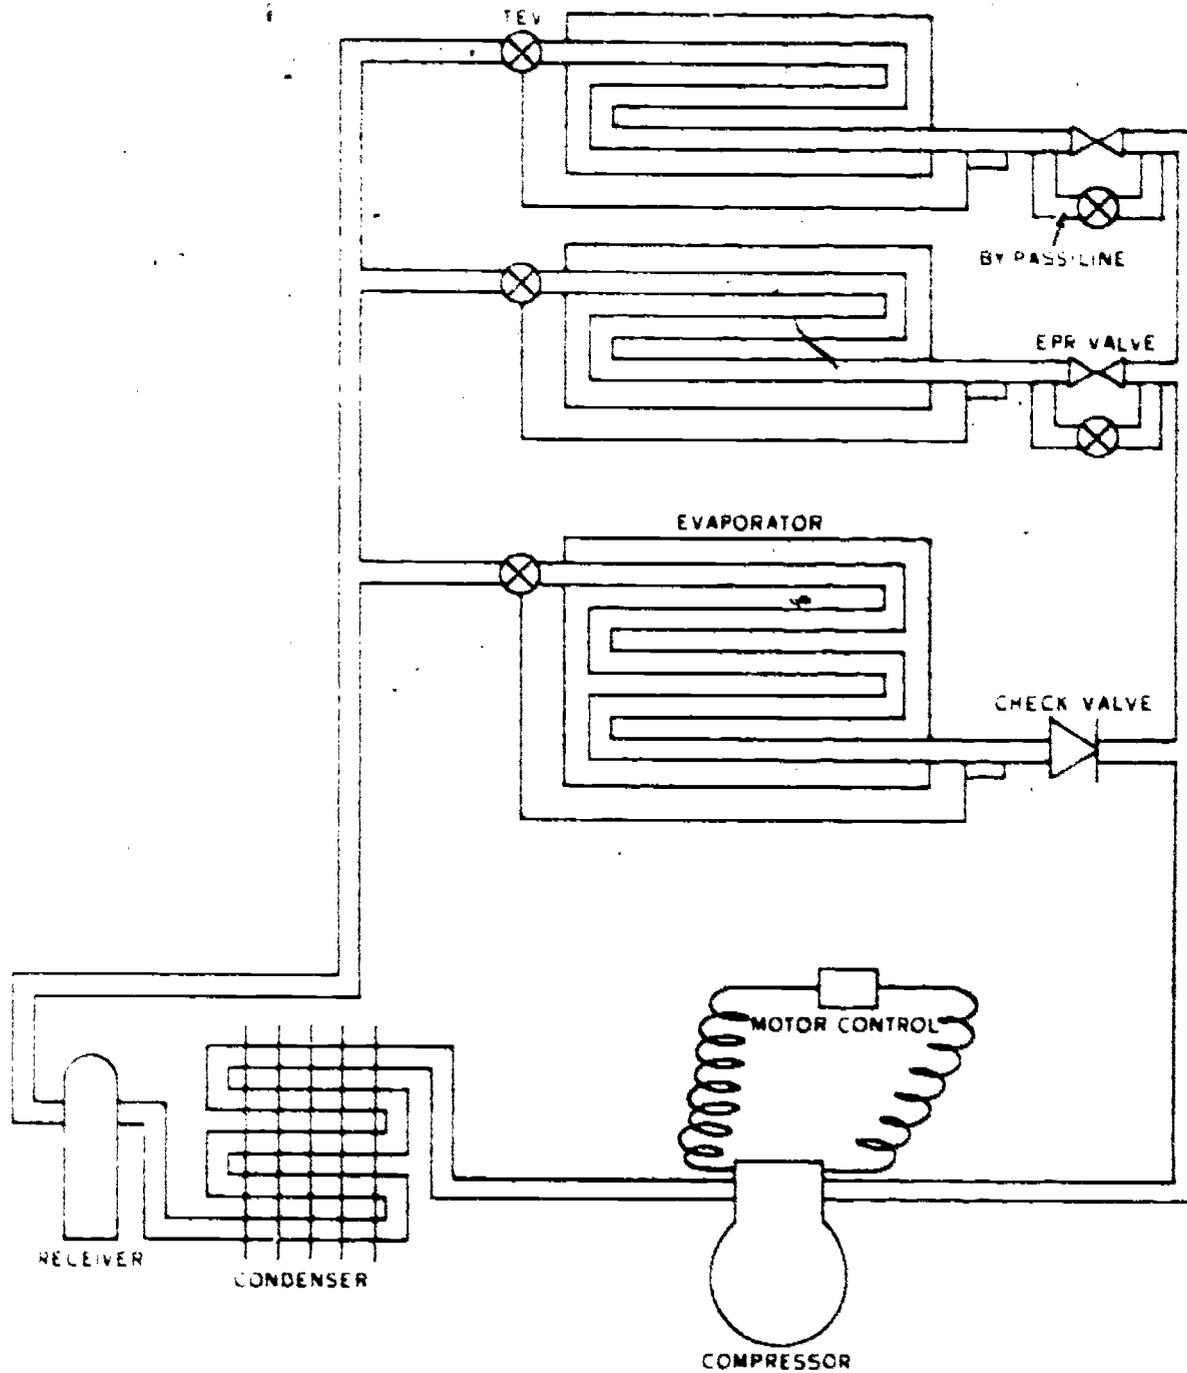

Figure 5. Evaporator Pressure Regulator Multitemperature System
1. Direct acting. Metering EPRs operate as a device on the suction side of the evaporator. It modulates, opens, and closes when the pressure in the evaporator varies only a fraction of a pound. The control element can be either a diaphragm or bellows. Figure 5 illustrates a system using this type of EPR valve. Snap-action type which is designed so that a decided rise in pressure is made in the coil before the valve will open. This type is used on an evaporator where defrost on the off cycle is desired. It is either fully open or closed. It does not modulate. Thermostatic EPRs have a thermobulb that is attached to the evaporator, and the operation of the control is by the temperature of the evaporator on the power element. This type can be either modulating or snap-action.